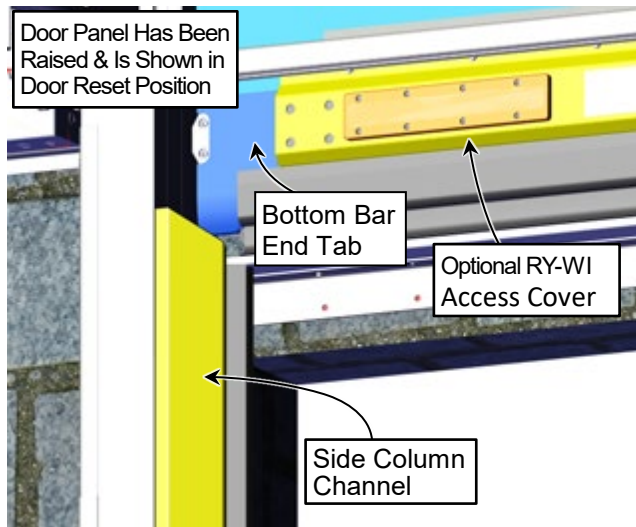

Figure 34
3. The door panel's foam breakaway tabs will roll upward above the side column's channel. (See Figure 34)